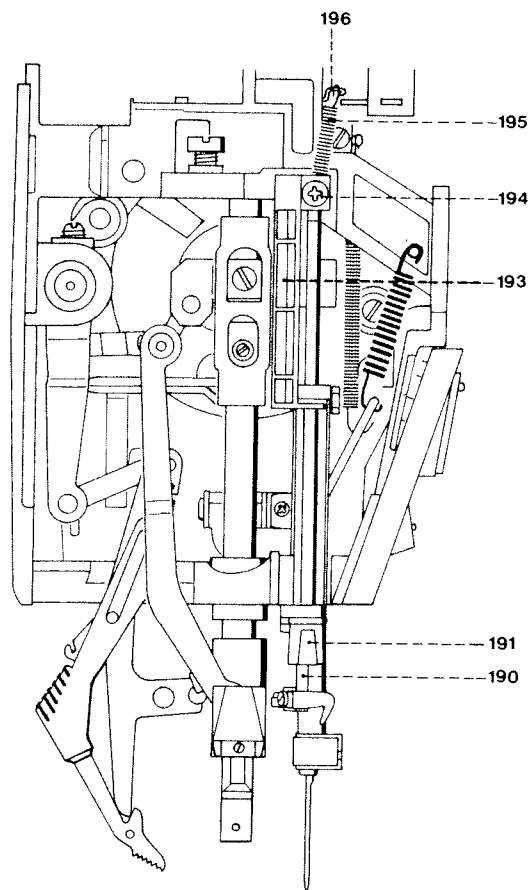

Fig. 15b
- Disconnect pull-spring 195 at the top (Fig. 15b).
- Turn pull-spring 195 two full turns anti-clockwise and insert it into hook 196 (Fig. 15b). This ensures that the needle threader is swung automatically to the rear.